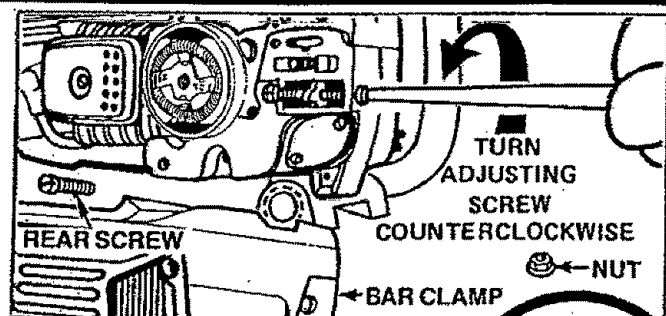

Figure 7
- Remove the following parts as shown in Figure 7.
2. Turn the Adjusting Screw counterclockwise  to move the Adjusting Pin almost as far as it will go to the rear. Figure 7.
5. Place the Guide Bar on the saw with the large slot over the Bar Stud and the Mounting Pins (on either side of the Bar Stud). Fit the adjusting pin into the round hole below the large slot. Figure 7 and 9.